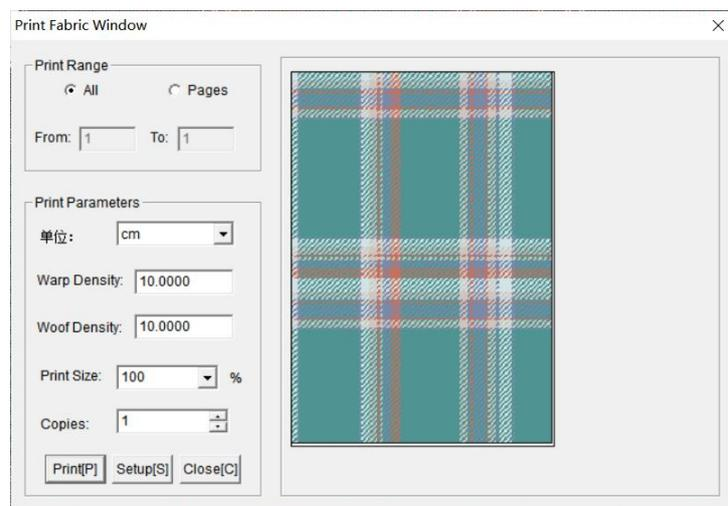

Figure 5-55 Print Fabric Window
2. A dialog box will pop up if the fabric selection box is valid (Figure 5-55).